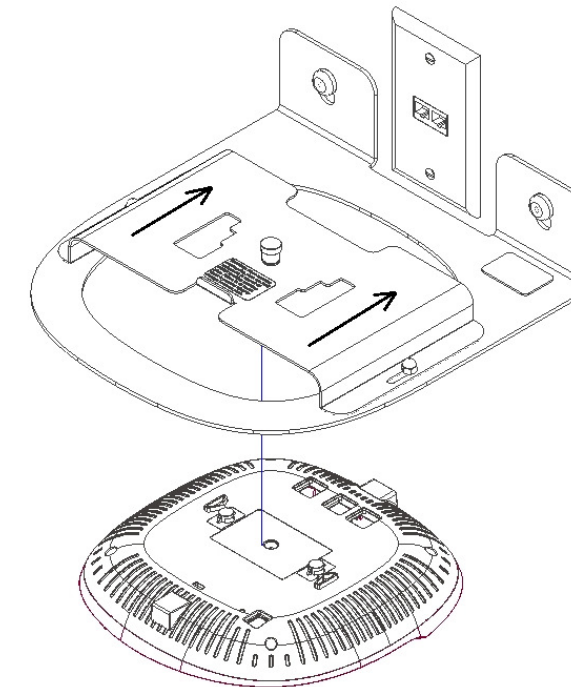

Figure 2
Step 5- After the mounting plate has been pushed towards the wall, use one hand to lift the AP335 access point into the opening with the Ethernet connectors facing towards the wall (Ref figure 2).